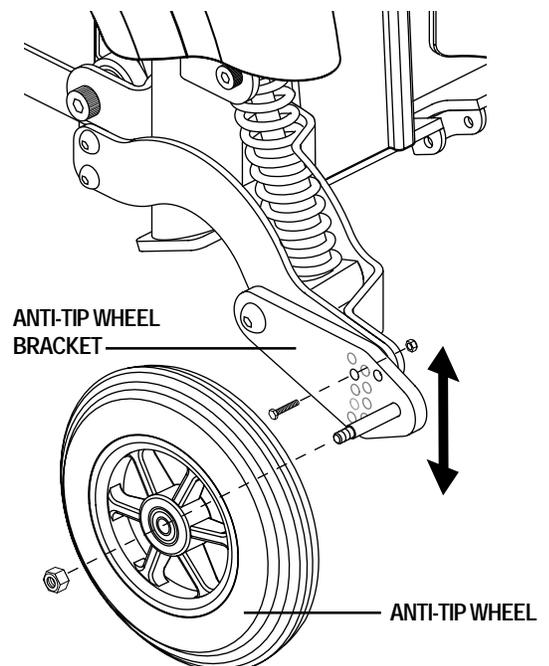

Figure 15. Anti-Tip Wheel Assembly
1. Remove the anti-tip wheel. See figure 15.